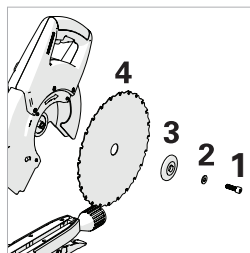

Fig. 41 View of
- Using the supplied Hex Key, release the arbor screw and remove the washer and blade flange and the blade from the arbor. (**Fig. 41**)